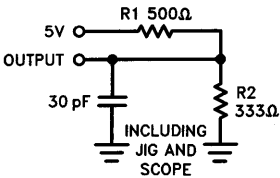

Figure 1a
7. Test conditions assume signal transition time of 5 ns or less, timing reference levels of 1.5V and output loading of the specified I_{OL}/I_{OH} and 30 pF load capacitance, as in Figure 1a, unless otherwise specified.